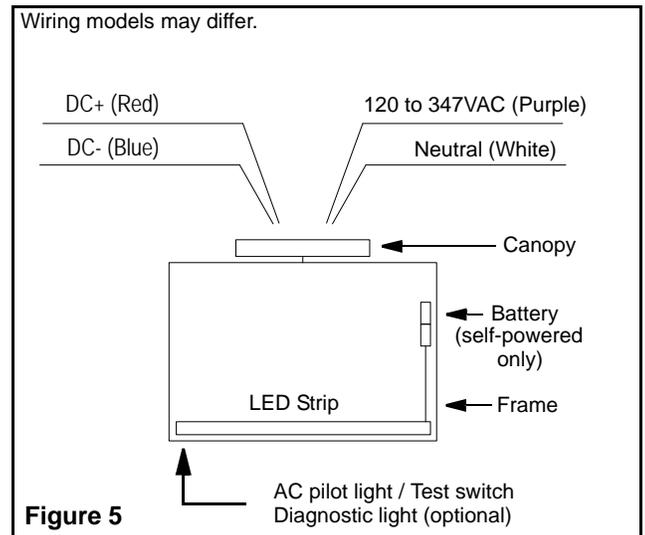

Figure 5
7. Make the proper wire connections. On the standard universal model, our unit accepts an input voltage of 120 VAC to 347 VAC (see Figure 5).
9. Secure the canopy unit assembly to the spider plate using the long screw provided (6).
Refer to Figure 5 for AC or DC wiring.
The diagnostic function uses a bi-color pilot LED indicator. Service is required if the LED turns red indicating that an alarm condition is detected (see Figures 5 and 6).